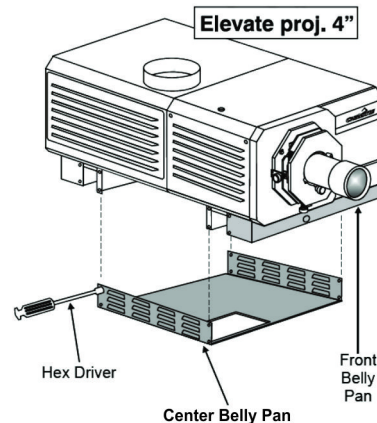

Figure 2 Remove Belly Pans
3. On the CP2000-X/-XB or Roadie 25K/HD+30K/HD+35K, remove the center (8 screws) and front belly pans (4 screws), as shown in **Figure 2**.